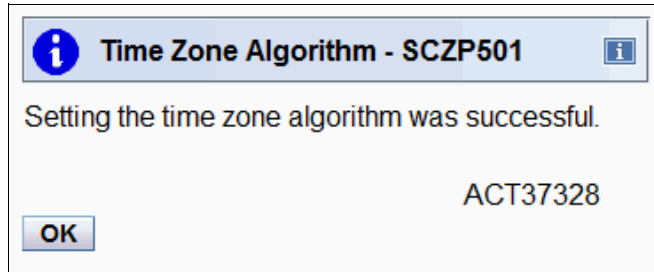

Figure 9-44 System (Sysplex) Time: Time Zone Algorithm panel
- c. Time Zone Algorithm panel opens (Figure 9-44 on page 534). Click **OK**.